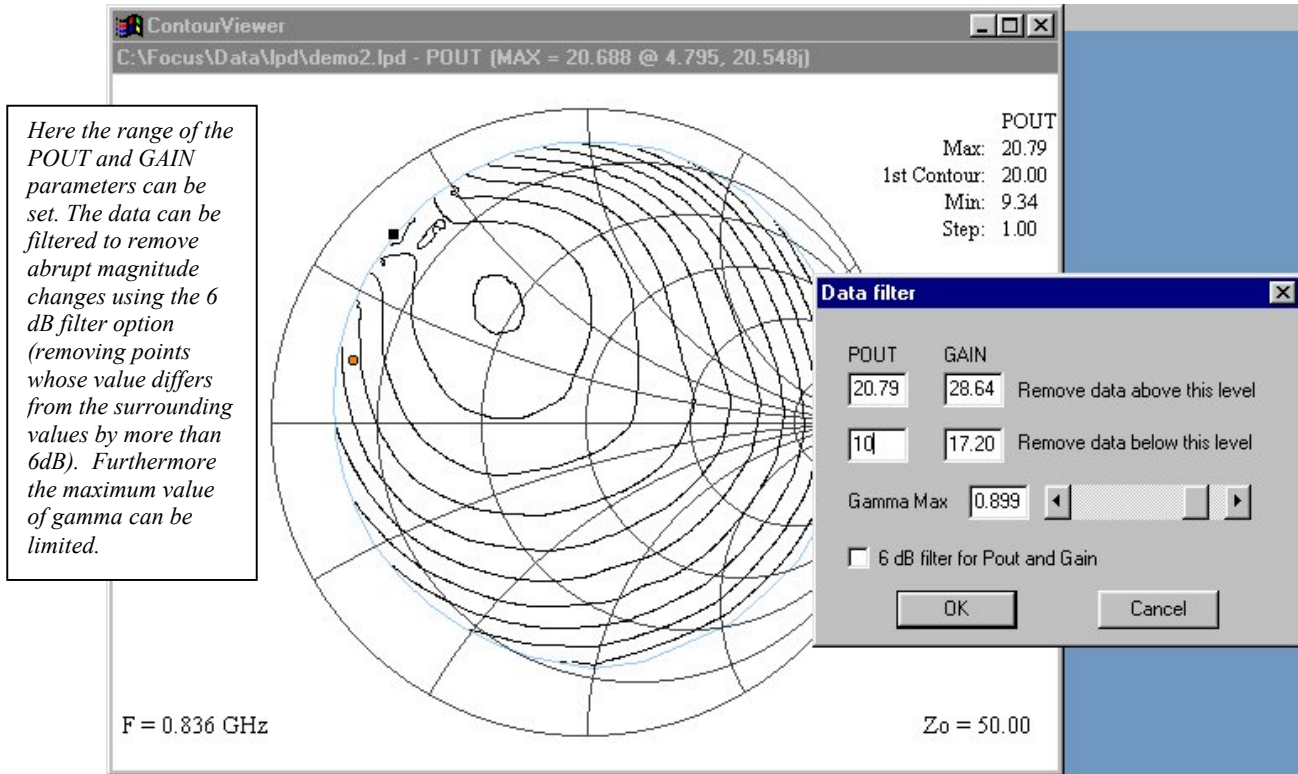
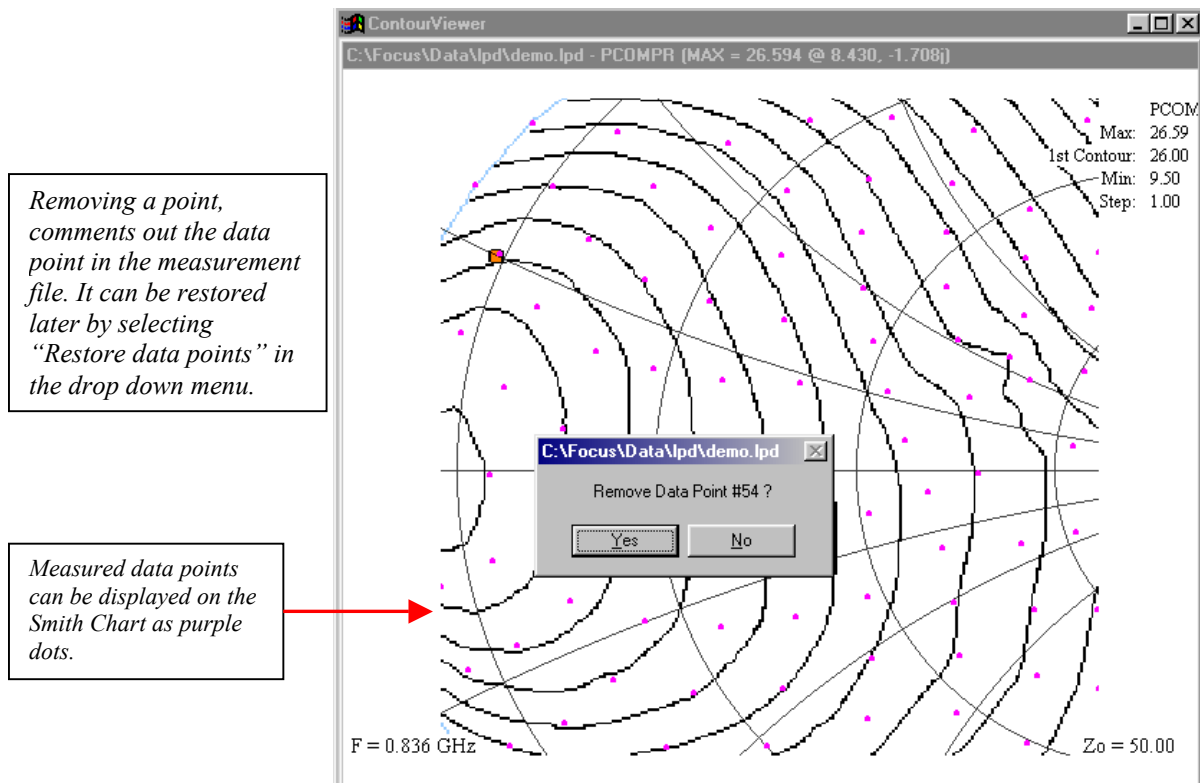

Figure 10: Filtering data of a Load Pull file
Figure 11: Removing a specific point from the plot
- Filter the data contained in the load pull file for display. Option to remove specific points from the plot (Figure 10 & Figure 11).